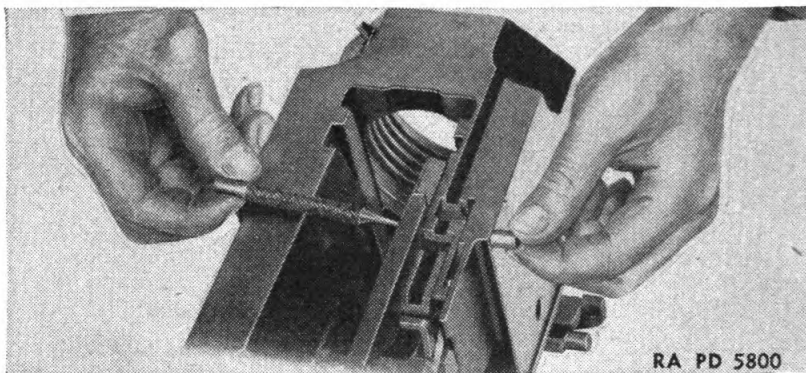

FIGURE 66.—Removal of trigger trip pin.
- e. Breechblock stop.*—(1) Remove the two cotter pins.
- (2) Unscrew breechblock stop retaining pin knob.
- (3) Ease out breechblock stop retaining pin and spring.
- (4) Remove breechblock pin. The breechblock stop is now free from the tube extension.
*f. Trigger trip.*—(1) Remove trigger trip pin (fig. 66).
(2) Lift out trigger trip.
*g. Trigger lever assembly.*—(1) Remove trigger pin.